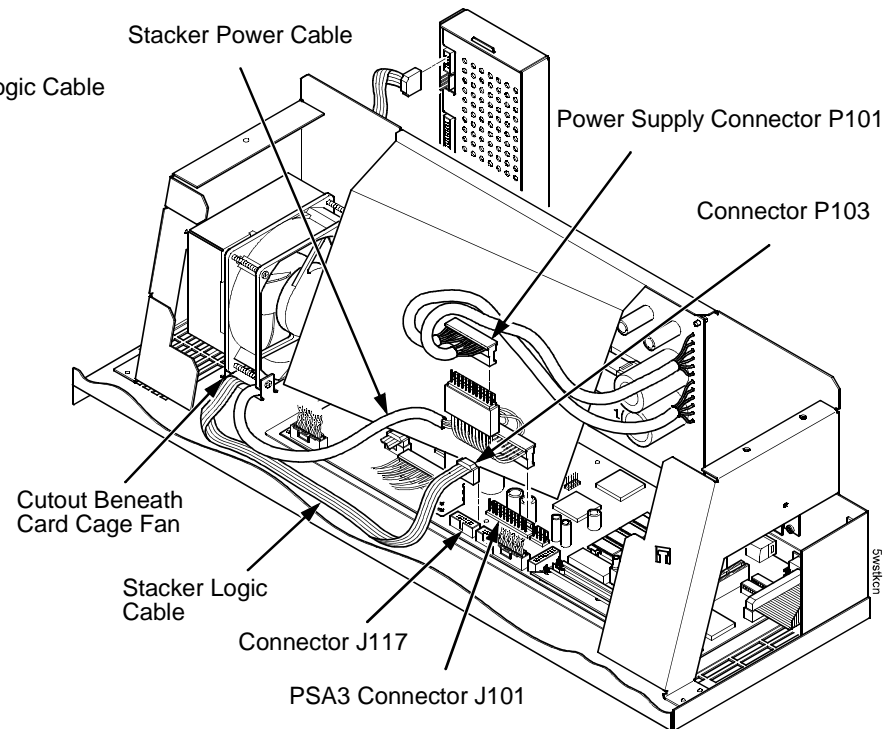

Figure 85. This figure shows where to attach the stacker power and logic cables on the CMX, CFX, or PSA3 controller board.
5. Connect the power stacker logic cable P103 to connector J17 or J117 on the controller board. (Figure 85.)
6. Disconnect the power supply cable from connector J101 on the controller board. (Figure 85.)
7. Connect power supply cable connector P101 to the stacker power cable, then connect the stacker power cable to connector J101 on the controller board. (Figure 85.)
9. Route the stacker logic cable through the opening between the card cage and the cabinet frame and behind the card cage. (Figure 85.)
5. Connect the power stacker logic cable P103 to connector J117 on the controller board. (Figure 85.)
8. Route the stacker power cable in front of the controller board and down through the cutout under the card cage fan. (Figure 85.)
9. Route the stacker logic cable in front of the controller board and down through the cutout under the card cage fan. (Figure 85.)